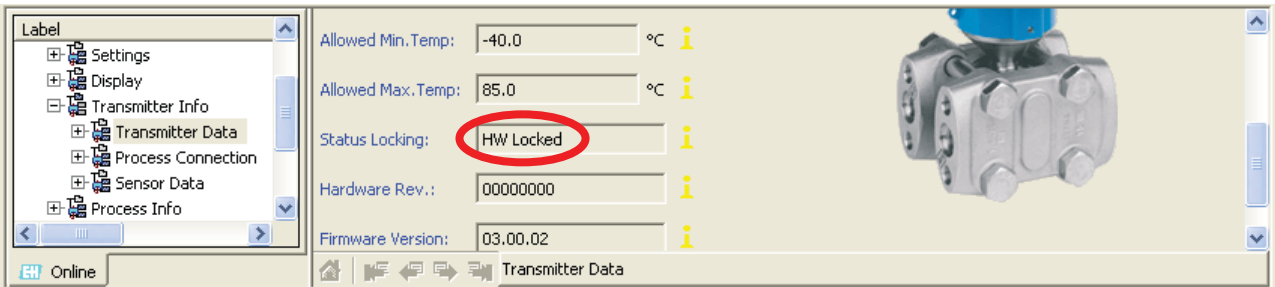
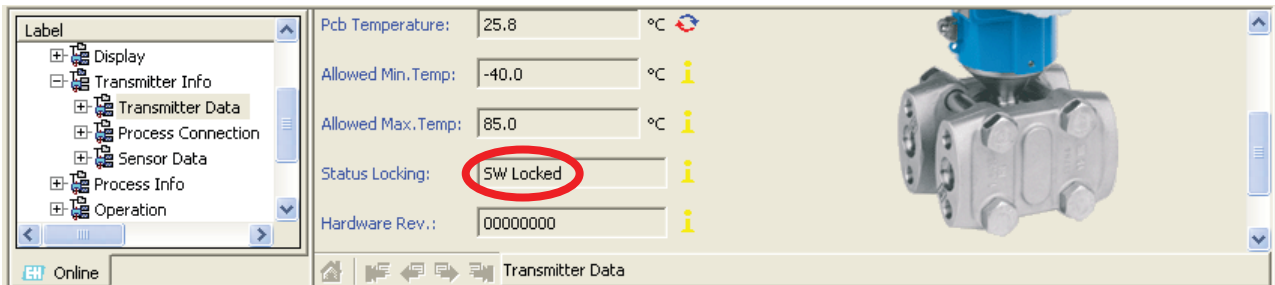

Figure 2-9. LOCKSTATE: Hardware (HW) locked.
Figure 2-10. LOCKSTATE: Software (SW) locked.
- Make sure that the device is not locked. If it is locked, the  (key) symbol is shown on the display. There are two reasons why the device can be locked: a dip switch is activated under the display (Figure 2-9) or the device was locked remotely, via software (Figure 2-10).